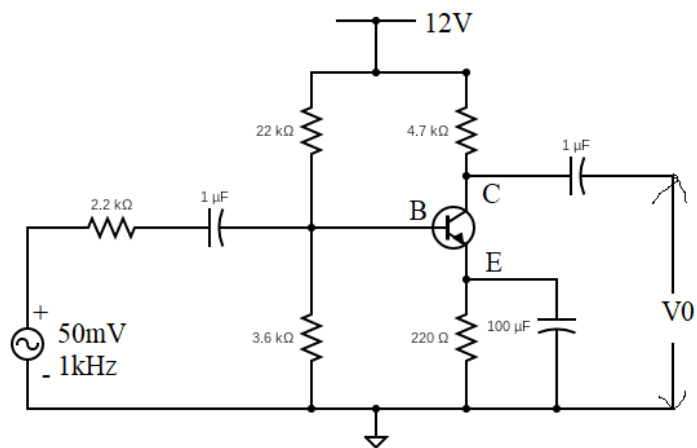

Figure 9.2: Circuit Diagram for Common Emitter amplifier
1. Connect the circuit diagram as shown in figure 9.2.